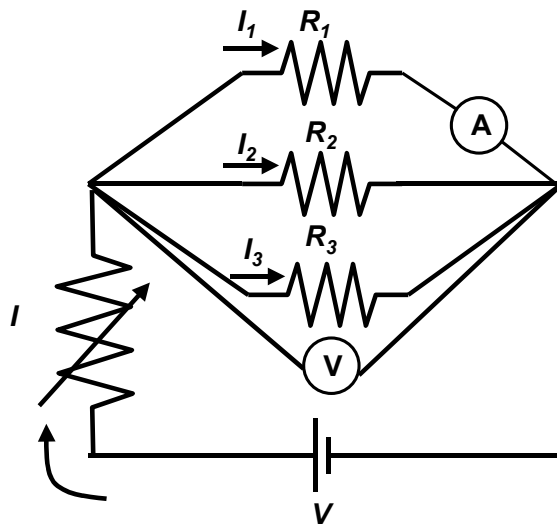

Figure 3. Circuit for measuring the resistance using a voltmeter and an ammeter.
1. Set up a circuit to measure the resistance of a light bulb with a voltmeter and an ammeter by the method of Figure 3.